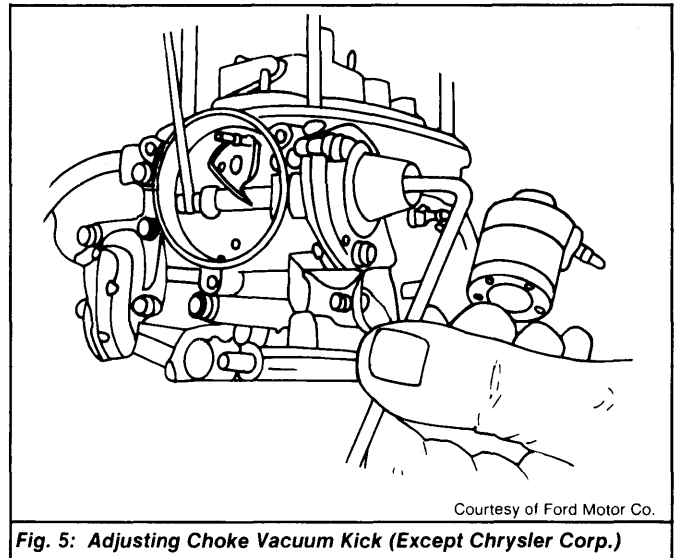

Fig. 5: Adjusting Choke Vacuum Kick (Except Chrysler Corp.)
4) To adjust, turn screw in end of vacuum diaphragm using a 5/32" Allen wrench. See Fig. 5. Install and adjust choke coil and cover to correct setting.